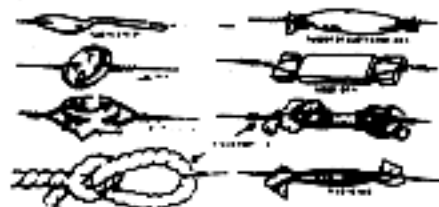

Figure 7-2. Field Expedient Insulators
b. Antenna Insulators. If the transmitting element of a field antenna is not properly insulated, it may become shorted to the ground and be ineffective. Many items can be used as field expedient insulators. The best items are plastic or glass which include plastic spoons, buttons, bottle necks, and plastic bags. Wood and rope or both in that order are less effective than plastic or glass, but are still better than no insulator at all. The radiating element—the actual antenna wire—should touch only the antenna terminal and should be physically separated from all other objects, other than the supporting insulator. Figure 7-2 shows various methods of making expedient insulators.